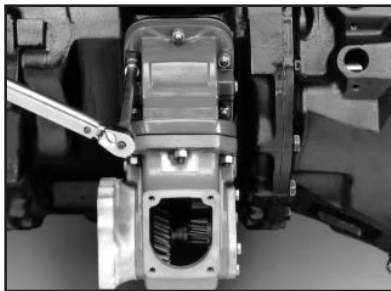

Figure 10
- 8-Bolt to 45-50 lb-ft (61.01-67.79 N-m) (**Fig 10**).